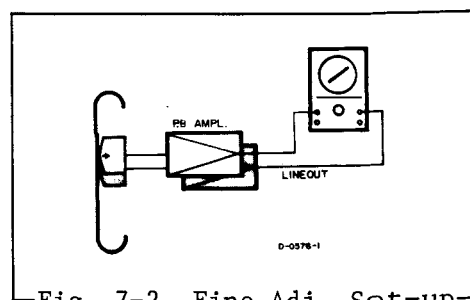

Fig. 7-2 Fine Adj. Set-up
6. Connect the test equipment as shown in Fig. 7-2.